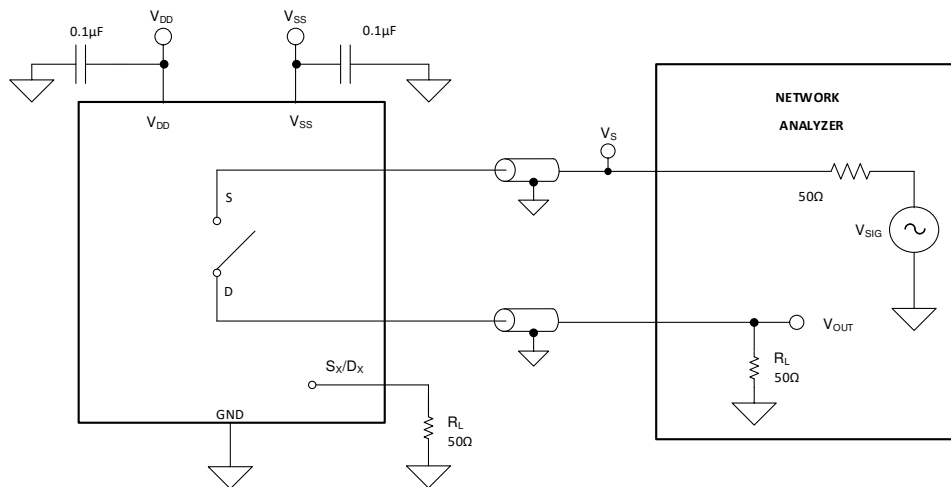

Figure 7-8. Off Isolation Measurement Setup
Off isolation is defined as the ratio of the signal at the drain pin (D) of the device when a signal is applied to the source pin (Sx) of an off-channel. Figure 7-8 shows the setup used to measure off isolation. Use the off isolation equation to compute off isolation.